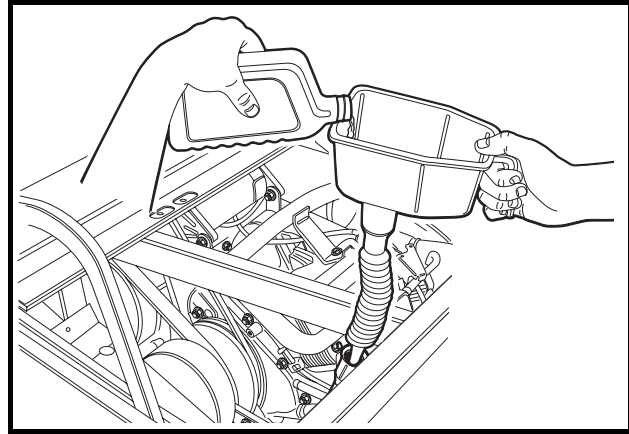
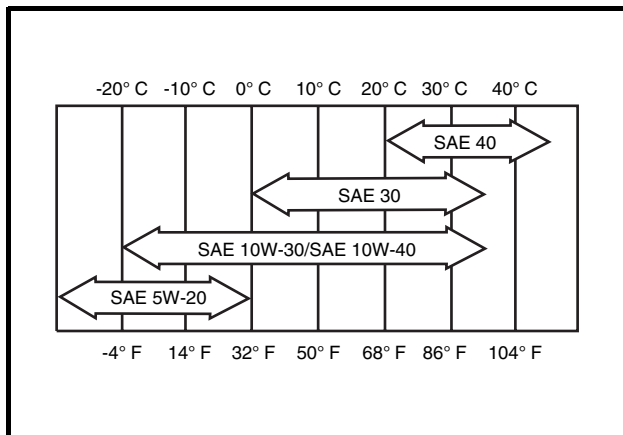

Figure 22 Add Engine Oil
Figure 23 Oil Viscosity Chart
16. Remove the dipstick and add engine oil into the dipstick port. Use a funnel or pour spout to direct the oil into the dipstick port (**Figure 22**). With filter change, the engine requires 38 ounces (1.12 liters) of oil per change. Refer to oil viscosity guidelines for selection of oil grade (**Figure 23**). Replace the dipstick.
Choose the viscosity according to the temperature as shown in the oil viscosity chart (Figure 23).